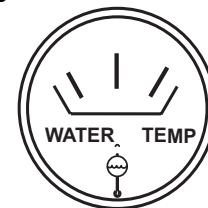

Figure 44. Coolant Temperature Gauge
12. The coolant temperature gauge (Figure 44) will indicate the coolant temperature. Under normal operating conditions the coolant temperature should be between 165 and 215 degrees Fahrenheit .